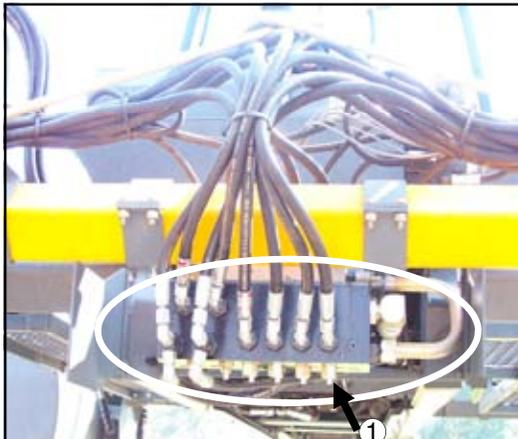

FIG 5.28
The hydraulic motors on the detasseling heads (fig. 5.30) are controlled by a master switch (fig. 5.29, item 1) and individually turned on and off with a row of switches mounted on the control panel to the right of the operator's seat (fig. 5.29, item 2). To open the solenoid on any of the motor control valves (fig. 5.28) which activates the motors, flip the corresponding switch(es) away from the operator. To shut any or all motors off, flip the corresponding switch(es) toward the operator.
Each set of motors is controlled with an adjustable needle valve (fig. 5.28, item 1) that restricts hydraulic flow to the hydraulic motors so they don't over-speed and become damaged.